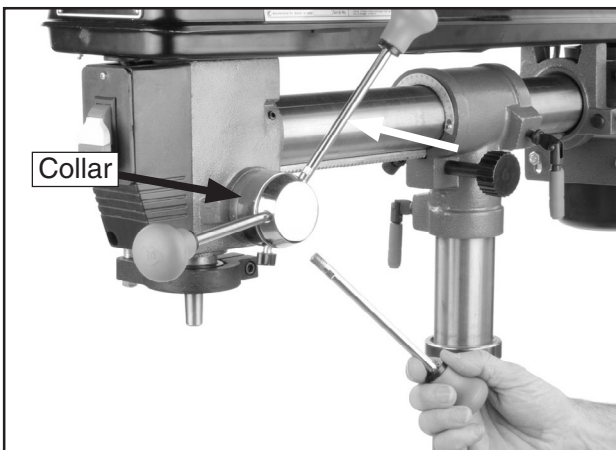

Figure 13. Installing downfeed handles.
1. Tightly thread the handles into the collar as shown in **Figure 13**.